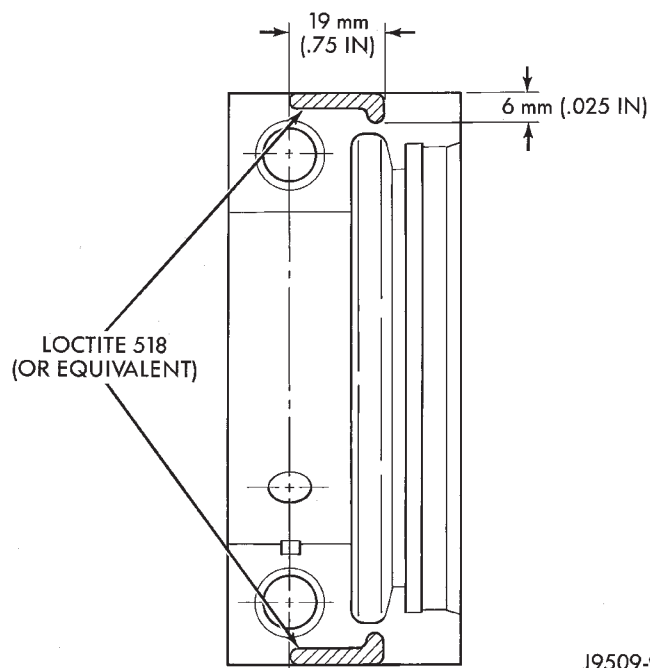

Fig. 56 Location of Loctite 518 (or equivalent)
(1) Lubricate the bearing surface of each insert with engine oil.
(2) Loosen all the main bearing caps. Install the main bearing upper inserts.
(3) Install the lower bearing inserts into the main bearing caps.
(4) Install the main bearing cap(s) and lower insert(s).
(5) Clean the rear main bearing cap (No.5) mating surfaces.
(6) Apply Loctite 518, or equivalent on the rear bearing cap (Fig. 56). The bead should be 3 mm (0.125 in) thick. DO NOT apply Loctite 518, or equivalent to the lip of the seal.
(7) Install the rear main bearing cap. DO NOT strike the cap more than twice for proper engagement.
(8) Tighten the bolts of caps 1, 3, 4 and 5 to 54 N·m (40 ft. lbs.) torque. Now tighten these bolts to 95 N·m (70 ft. lbs.) torque. Finally, tighten these bolts to 108 N·m (80 ft. lbs.) torque.